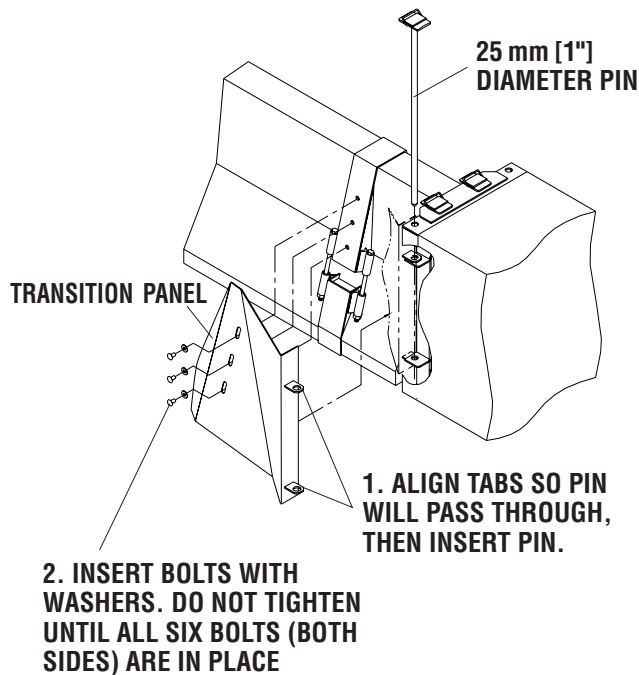

Figure 8
Step 6: Transition Panel Installation (See Figure 8)